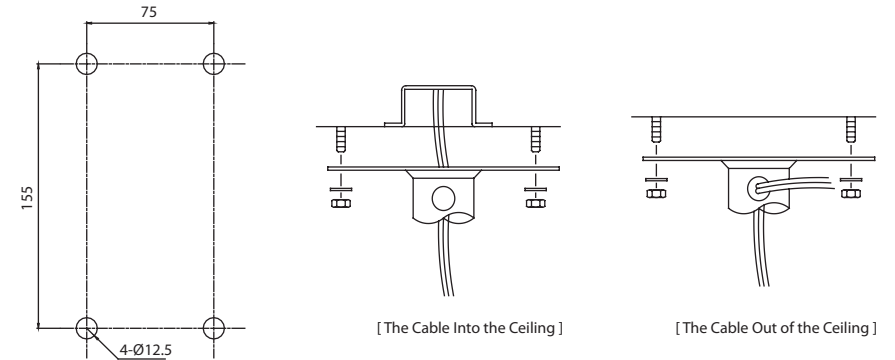

FIG. 3
3. If you want to install the Mini PTZ on the concrete wall, you need to make 12.5mm diameter 4 holes by drill like FIG. 3. (Depth 37mm)